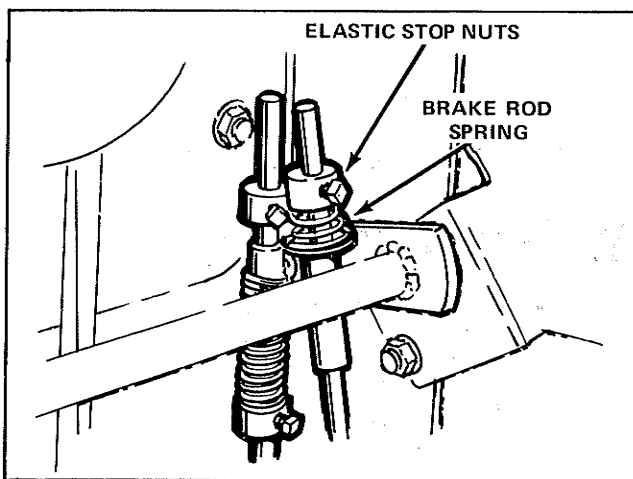
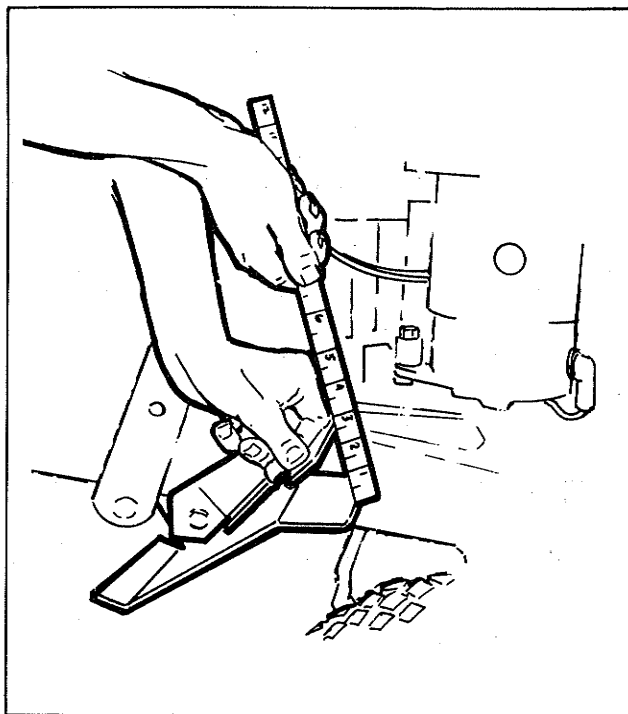

Figure 10
Figure 11
2. With the foot pedal released (up), secure the brake rod set collar against the tapered coil spring. Be sure to position the collar as shown in Figure 10 so that the spring is NOT compressed. Depress the foot pedal all the way down. It should stop two and one-half inches from the foot rest edge as shown in Figure 11. Re-adjust the set collar if necessary to obtain the two and one-half inch distance.